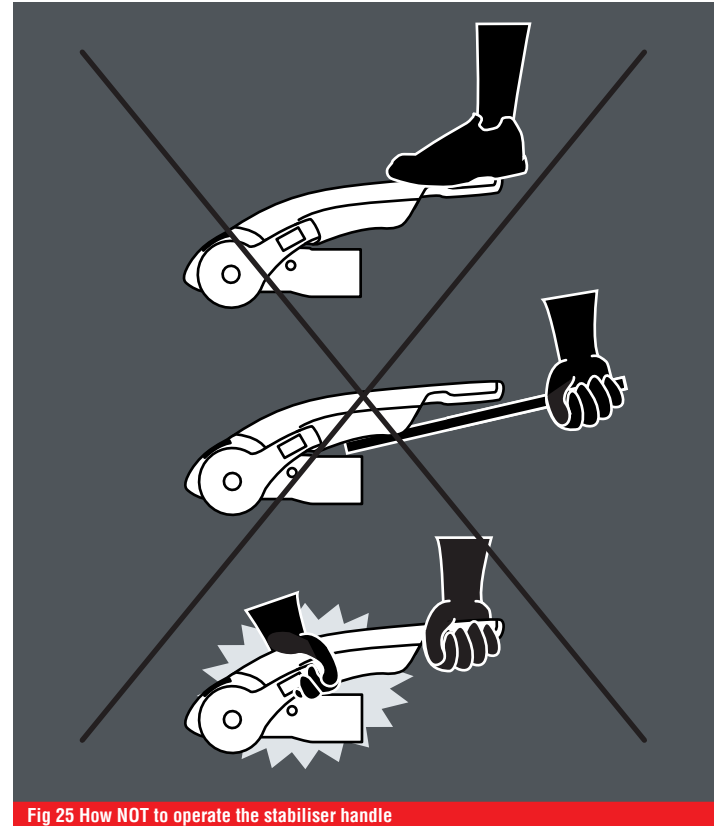

Fig 25 How NOT to operate the stabiliser handle
2. Press stabiliser lever down by hand force only **DO NOT** use your foot or an extension bar, this will damage the components (Fig 25).
3. When opening or closing the stabiliser lever, please ensure your hand does not touch the coupling handle - you may accidentally trap your fingers (Fig 25).